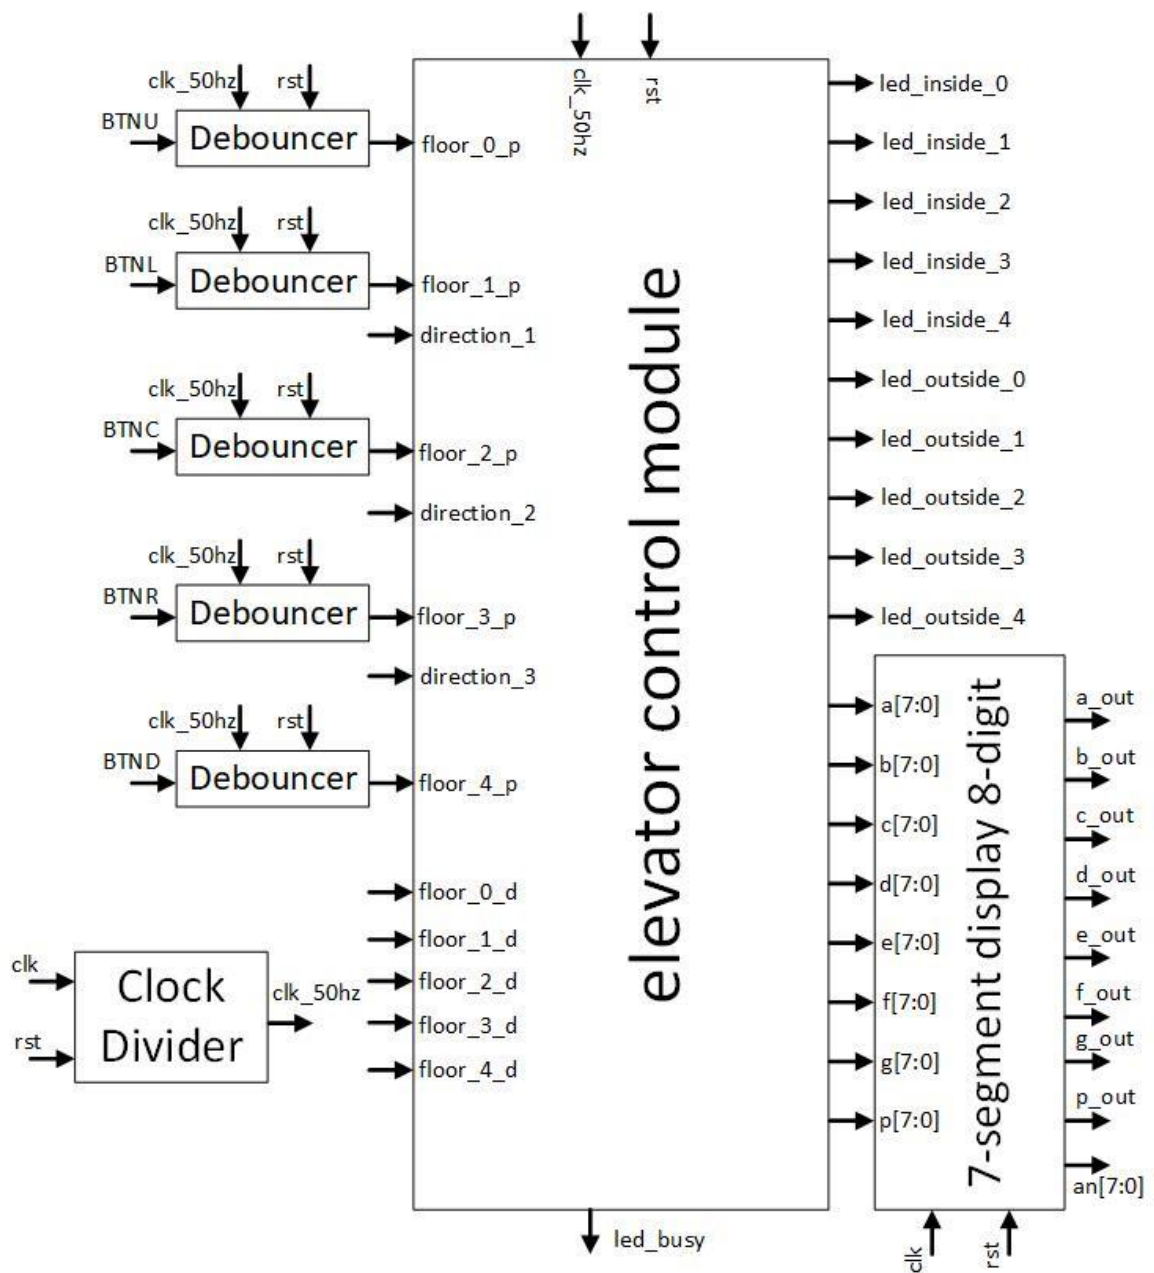

Figure 1: Term Project block diagram
- *clk* is the clock signal required for sequential operation of your design. You need to use a clock divider module to reduce your clock speed. Your FPGA has 100 MHz internal clock (clk). (clk) should be in your constraint file. The *clock_divider* module will take the 100 MHz clock (clk) and generate a 50 Hz (20 ms) clock signal *clk_50hz* as an output, which you use as an input to your elevator control module and debouncer modules. Please check Figure 1 to understand better.